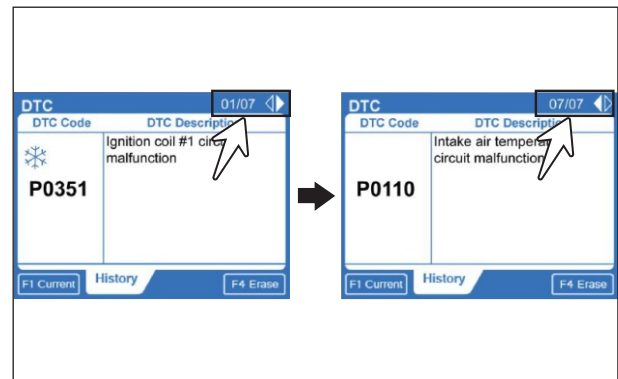

Fig. 7.13
- Both the current as well as the history page may have more than one error. This can be viewed using the arrow keys '◀', '▶' on the tool. (Fig. 7.13)